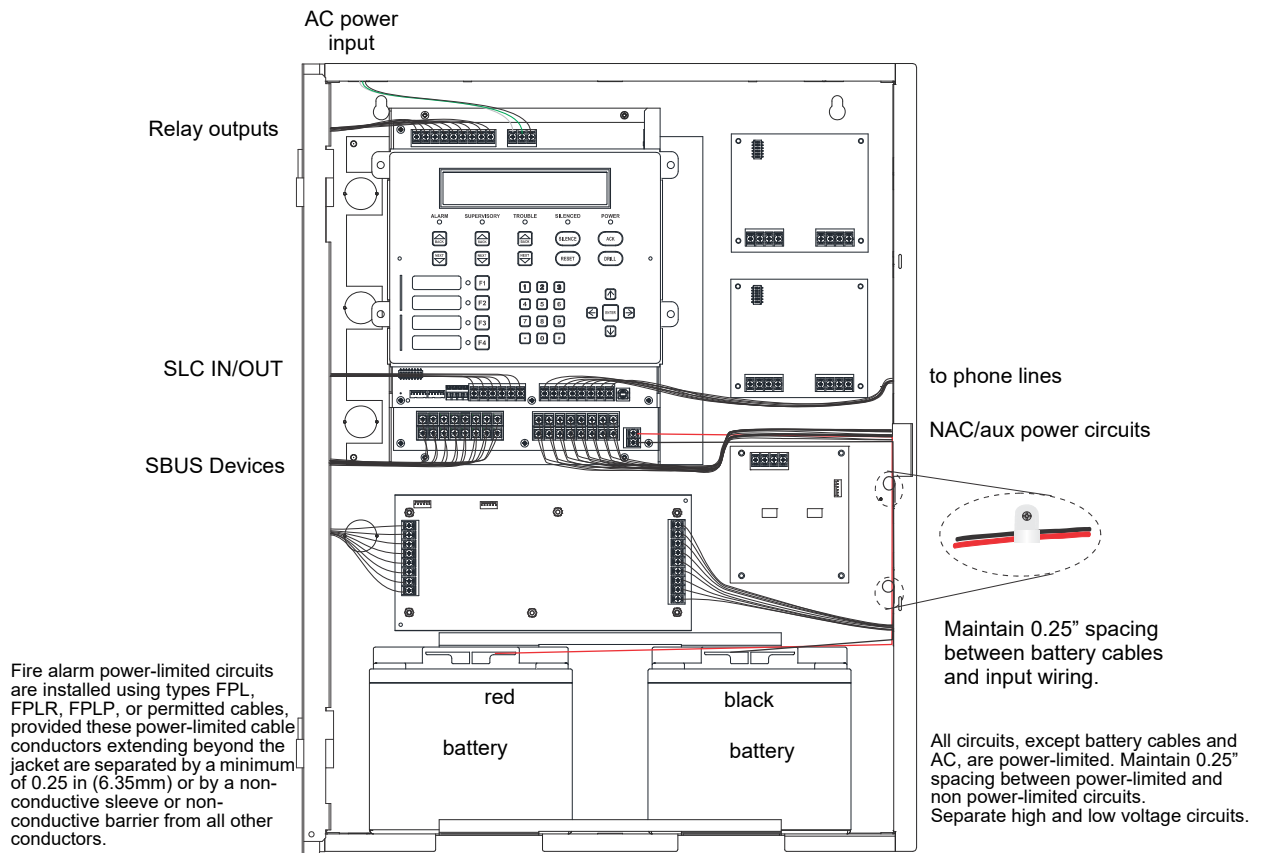

Figure 4.4 Wire Routing Example for IFP-2100ECS
- Route the wiring around the inside perimeter of the cabinet. It should not cross the circuit board where it could induce noise into the sensitive microelectronics or pick up unwanted RF noise from the high speed circuits. See Figure 4.4 for an example.
NOTE: Figure 4.4 is an example of how the wire connections can be routed. However, any other cabinet knock-outs (on either the main control panel or the RBB/AB-55 cabinet), that are not previously being used may be utilized to connect conduit between the two cabinets.